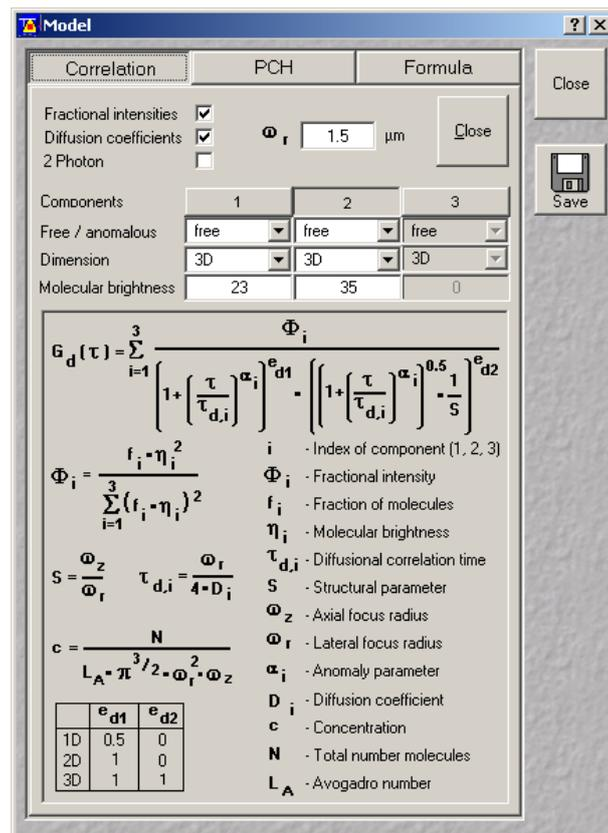

Fig. 4-79 Settings Translation panel
- You have the following possibilities for setting parameters (see Fig. 4-79):